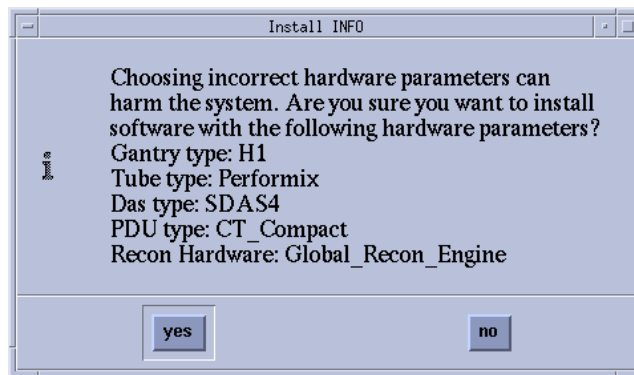

Figure 1-9 Hardware Confirmation Screen (Example - LightSpeed 1.X SDAS Shown)
- 38.) An Install INFO pop-up box is displayed. See Figure 1-9 for a typical Install INFO message (the Install INFO message is different for each system configuration).